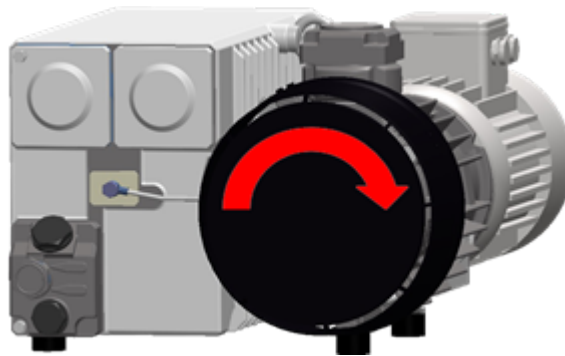

Figure 3: Direction of Rotation of the Vacuum Pump
4. Check the correct direction of rotation of the three-phase model pump. See *Figure 3: Direction of Rotation of the Vacuum Pump* on page 25.